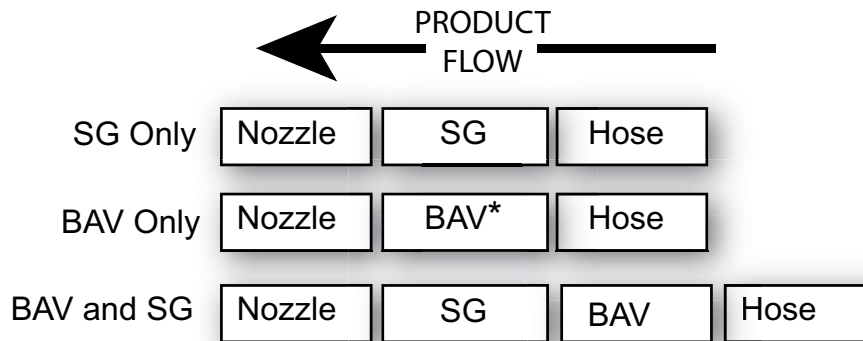

Figure 1 - Installation Order
4. Review Figure 1 to determine order of installation with mating parts. Failure to follow proper installation order could result in unsafe condition.